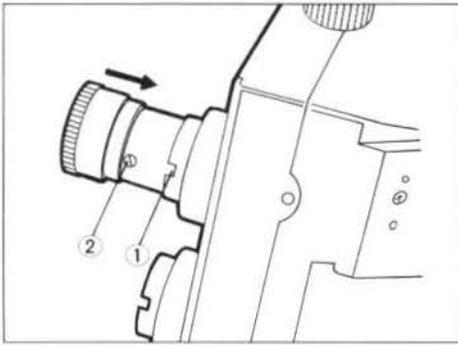

Fig. 12
Insert the eyepieces into the eyepiece tubes so that the positioning pins ② on the eyepieces fit the notches ① in the tubes. (Fig. 12)